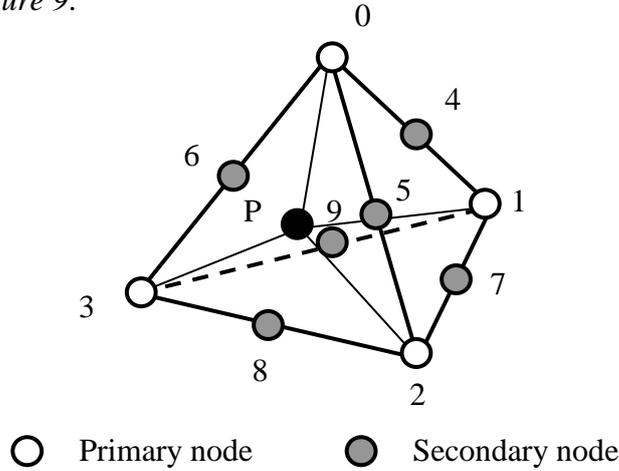

Figure 9. Quadratic Tetrahedral Element
(1). Nodes. The element contains 10 nodes with connectivity and numbering shown in Figure 9.